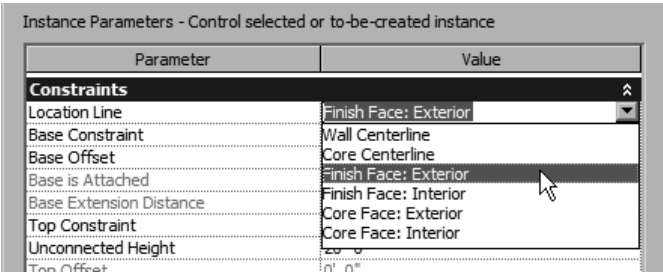

Figure 3-38 Setting the location line parameter in the *Instance Properties* table of the *Instance Properties* dialog box
- e. Change the **Location Line** parameter to **Finish Face: Exterior**, refer to Figure 3-38.
2. Click in the **Value** column of the **Location Line** parameter and choose the **Finish Face: Exterior** option, as shown in Figure 3-38. Choose the **OK** button to accept the specified values and close the dialog box to return to the interface screen.